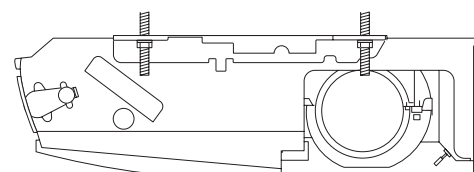

Fig. 3-101
- c) Tighten the 2 hexagonal nuts on each suspension bolt to suspend the indoor unit as shown in Fig. 3-101.